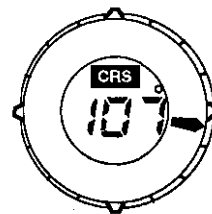

Fig. 2-11 The Example of Indication
- 3) The figure 2-11 show the example of course 107 degrees.